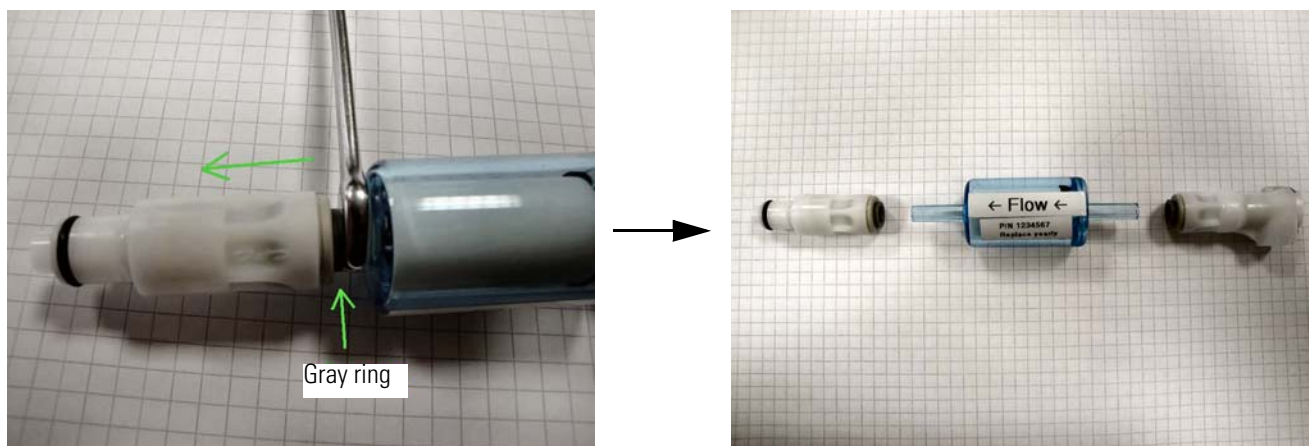

Figure 3-51. Removing the filter cartridge
4. Remove the filter from the assembly by using a 5/16 inch wrench and pressing against the gray ring on the quick coupling, away from the filter. See Figure 3-51.